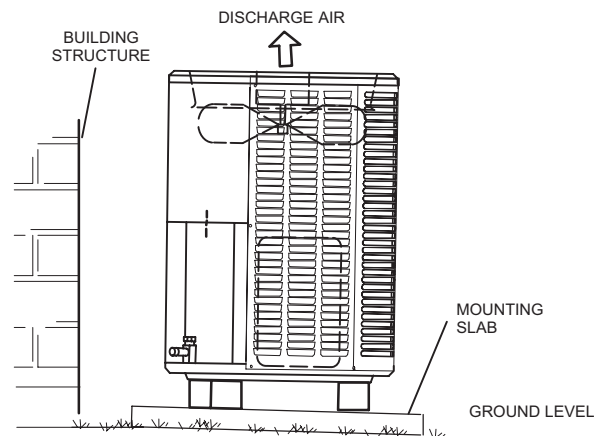

FIGURE 4. Placement and Slab Mounting
- When possible, do not install the unit directly outside a window. Glass has a very high level of sound transmission. For proper placement of unit in relation to a window see the provided illustration in figure 4, detail A.
The slab should have a slope tolerance as described in figure 4, detail B.